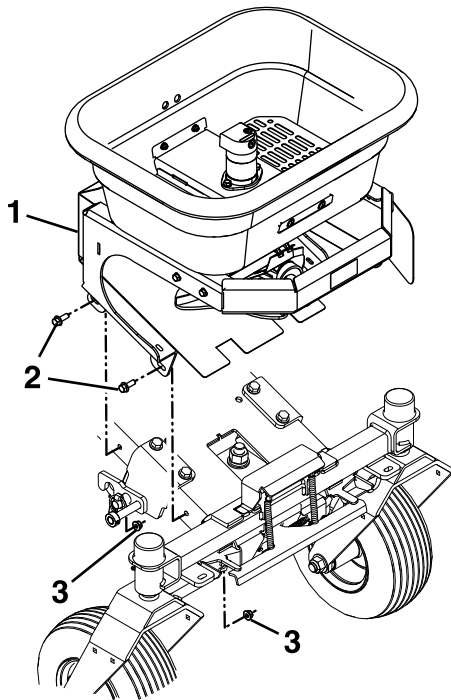

Figure 4
4. Place the hopper assembly onto the front of the traction unit as shown in Figure 4. Secure the hopper using four (two on each side) 3/8-16 x 1 inch hex flanged screws and 3/8 inch hex flanged nuts.